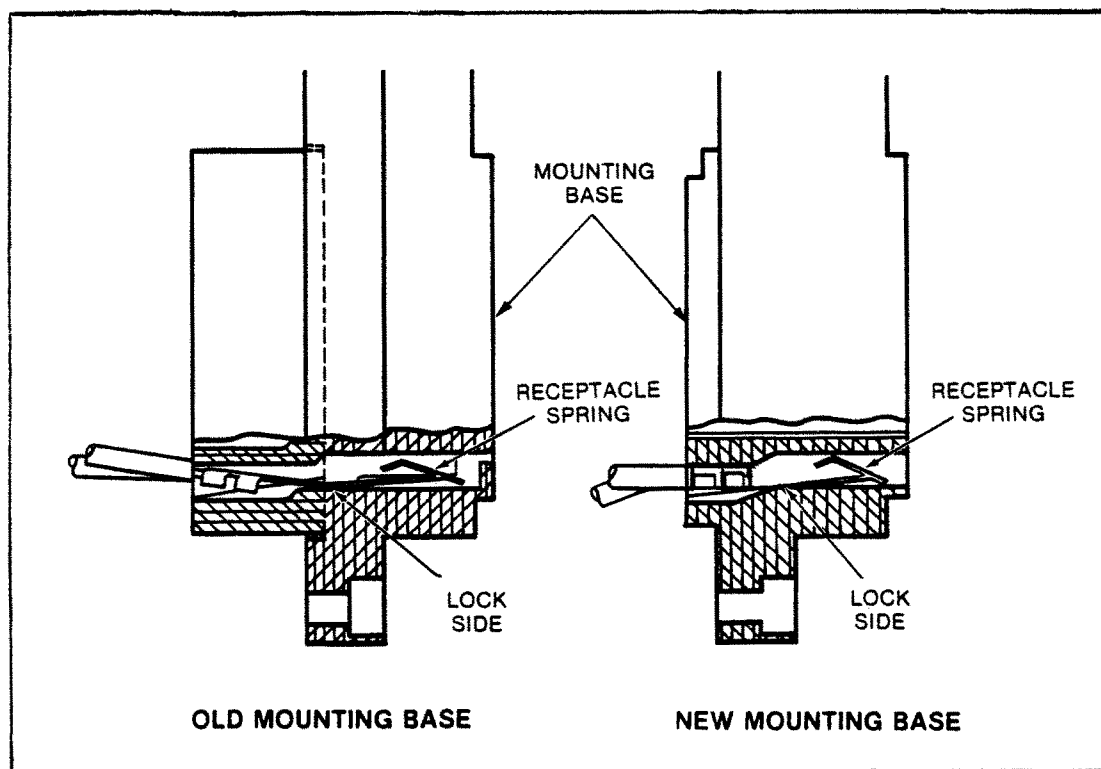

FIGURE 2-2. RECEPTACLE SPRING INSTALLED
- a. Receptacle contact springs must be inserted into the base cavity with the lock side down (See Figure 2-2).